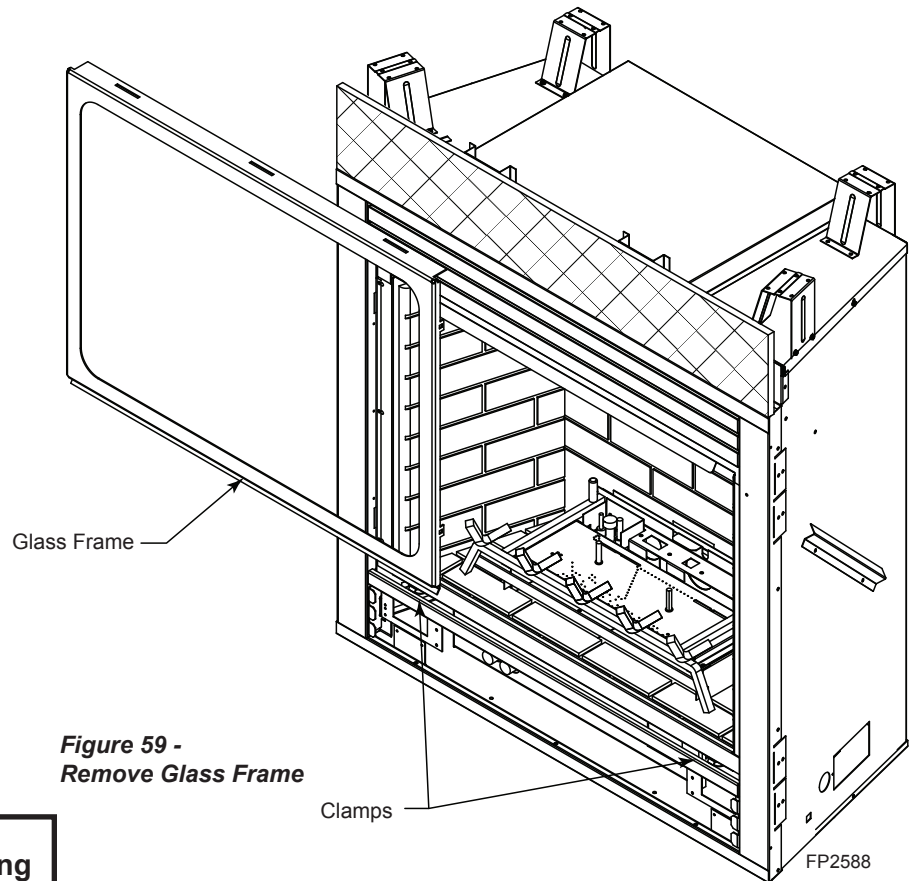

Figure 59 - Remove Glass Frame
1. Release two clamps on bottom of fireplace. *Figure 59*